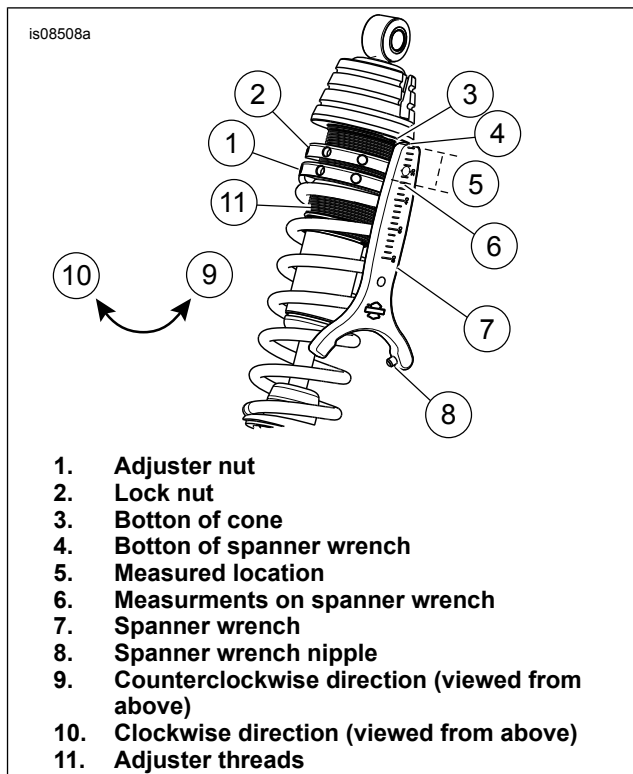

Figure 2. Preload Adjustment
The minimum distance (5 See Figure 2 ) is 16 mm (0.62 in).
The maximum distance (5 See Figure 2 ) is 46 mm (1.81 in).
1. Clean the adjuster threads (11).
2. See Figure 2. Loosen adjuster nut and lock nut:
- a. Place spanner wrench nipple (8) in hole of adjuster nut (1).
- b. Rotate in direction (10) to separate the two nuts.
4. Measure location by placing the bottom of the spanner wrench (4) on the bottom of the cone (3). Read the measurement on the spanner wrench (6) at the top of the adjuster nut. Note measured distance. Rotate adjuster nut to desired location (5).
- c. Rotate in direction (9) to lock nuts together.